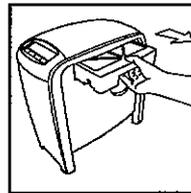

Fig. 29
- Pull the filter assembly out of the air washer by grasping the filter handle and pulling the filter assembly away from the unit (Fig. 29).